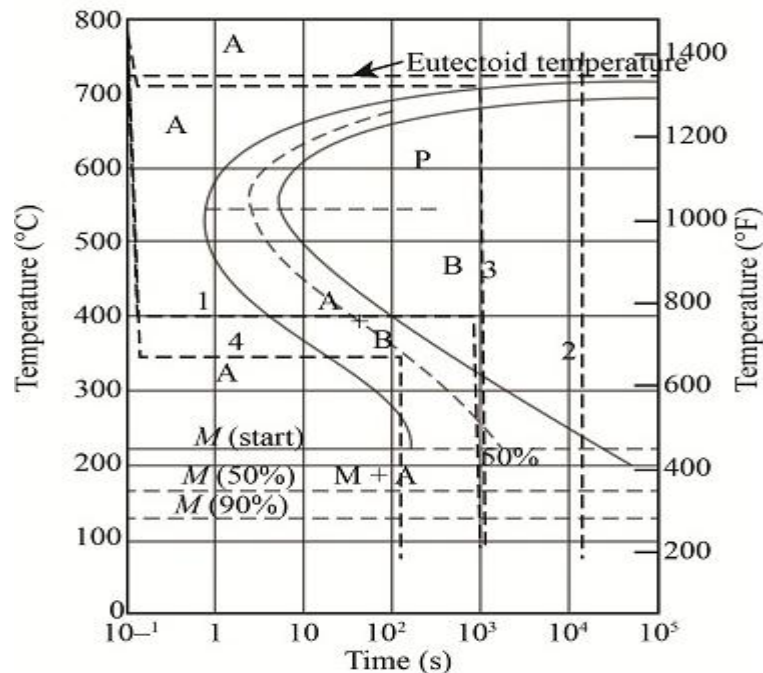

Fig Q1(a): Isothermal transformation diagram of eutectoid steel.
(b) Thin pieces of 0.3mm hot rolled strips of 1080 steel are heat treated in the following ways. Use the IT diagram of Figure Q1(a) and other knowledge to determine the microstructure of the steel samples after each heat treatment.
- (c) The hardenability curves for five different steel alloys, all having 0.40 wt% C, yet differing amounts of other alloying elements, are shown in Figure Q1(b). Explain the effect of alloying compositions on the hardenability and microstructure of steels. [7 marks]
Fig Q1(b): Hardenability curves for five different steel alloys, each containing 0.4wt%. Approximate alloy compositions (wt%) are as follows: 4340 – 1.85 Ni, 0.80 Cr, and 0.25Mo; 4140 – 1.0 Cr, and 0.20 Mo, 8640 – 0.55Ni, 0.50 Cr, and 0.20 Mo; 5140 – 0.85 Cr; and 1040 is an unalloyed steel.